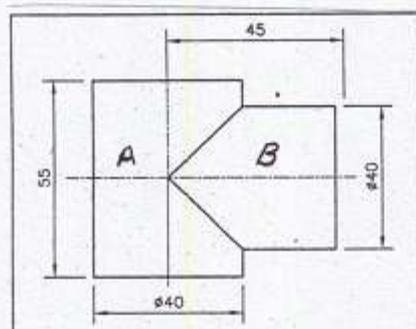

FIG.NO.8
- (a) A Front view of a ‘Two Piece Elbow ‘ is shown in FIG.NO.8. Draw the development of lateral surface of the part ‘A’ and part ‘B’. **07**